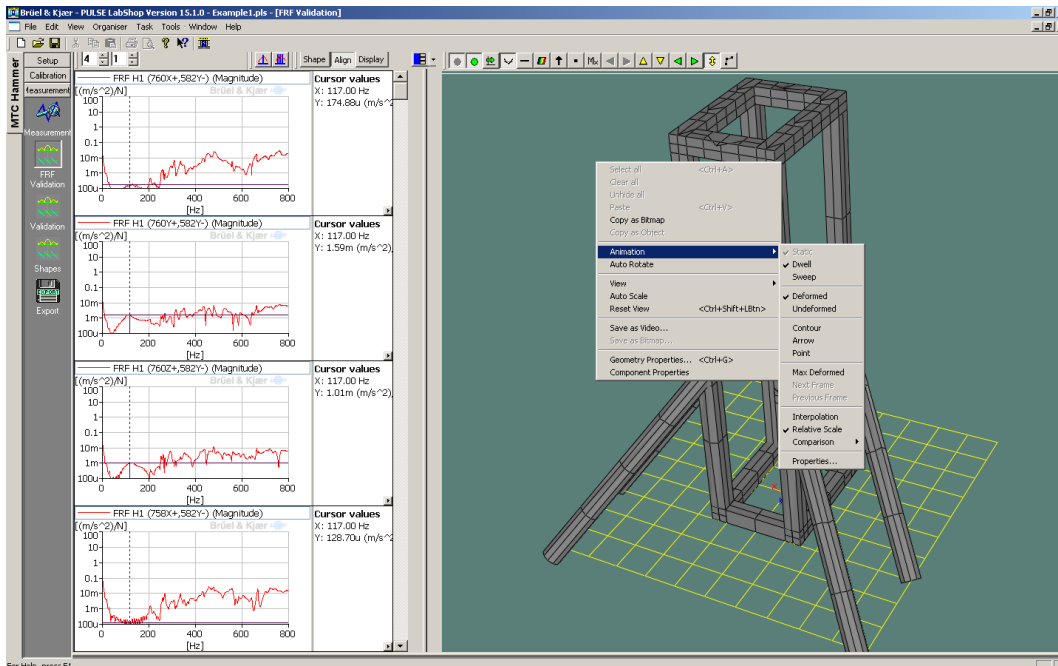

Figure 9: Viewing the Mode Shapes
- The easiest way to change your view of the mode shapes is by right clicking on the animation and hovering over animation. You will see the menu in Figure 9. For optimal viewing, select Dwell, Deformed (and unselect undeformed), Interpolation and Relative Scale.